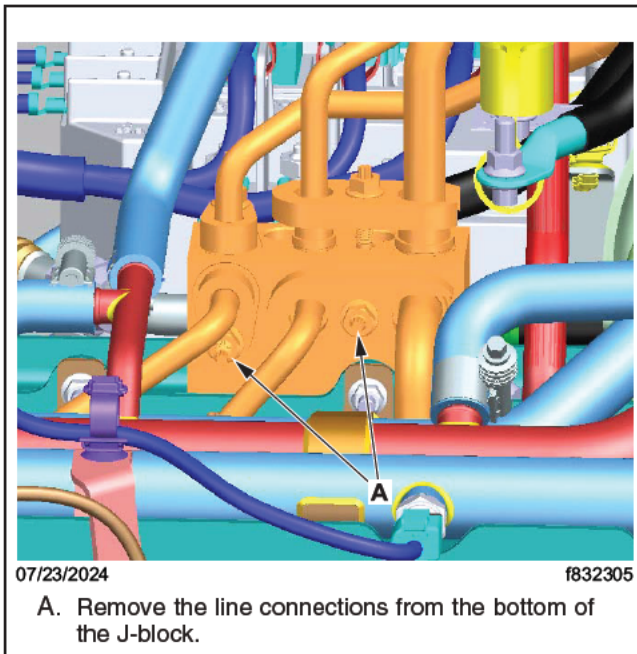

Fig. 5, J-Block Line Connections (bottom side)
27. Remove the chiller and eRC lines from the bottom of the frontbox J-block, and remove the lines from the vehicle. See Fig. 5.